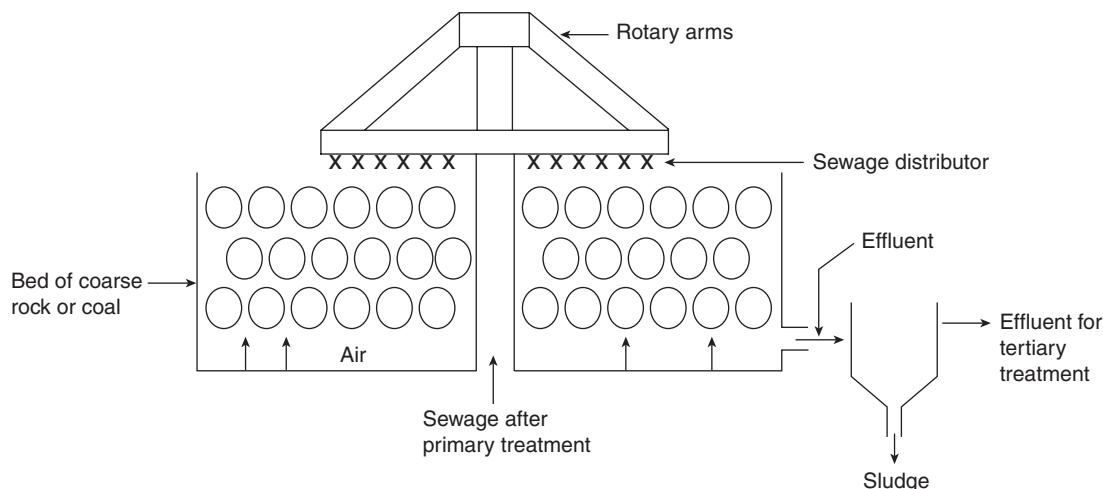

Figure 11 Schematic diagram of trickling filter.
- Trickling filter:** In this method, a 2 m deep cylindrical tank is filled with a bed of either crushed rock, coarse clinkers or anthracite coal (Figure 11). The sewage is allowed to trickle over this filtering material by means of rotary feeder arm. Air is pumped into the filter to counter current the downward flow of sewage growth and cover the surface of filter medium. These further feed on the organic waste present in sewage and release carbon dioxide and water. The purified sewage is removed from the bottom and complex organic material that does not undergo microbial oxidation is separated. This process removes about 85–90% of BOD.